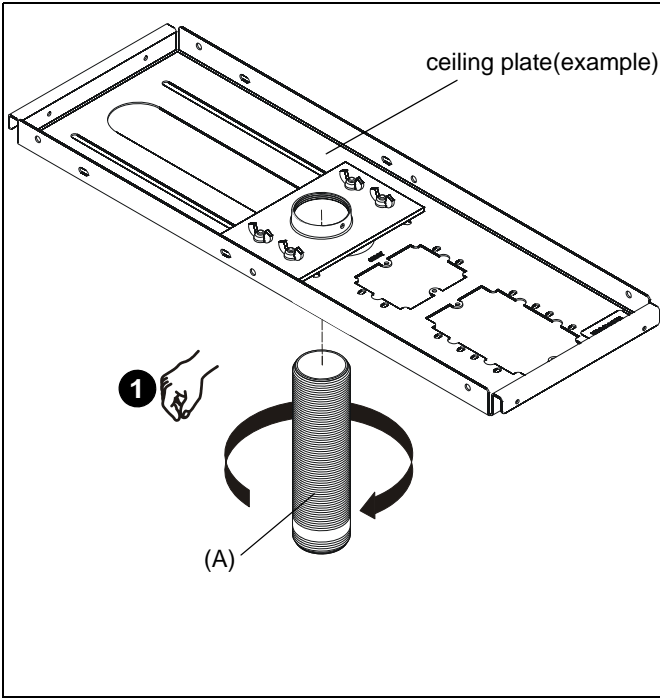

Figure 1
1. Install 6" fully threaded column extension (A) into plate/ adapter to desired position. Ensure column (A) engages at least five full threads into plate adapter. (See Figure 1)
2. Secure column (A) to plate/adapter by tightening set screw in plate/adapter (See Figure 1).